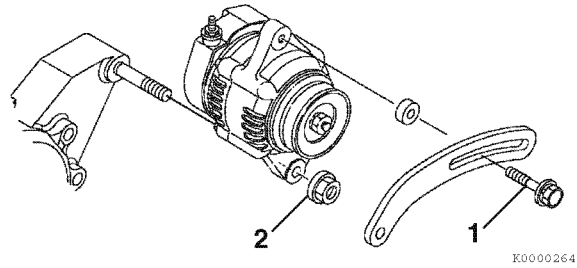

Figure 12-4
3. Remove the V-belt adjuster from the alternator bolt (1, **Figure 12-4**).
4. Remove the nut (2, **Figure 12-4**) from the gear case stud. Remove the alternator.